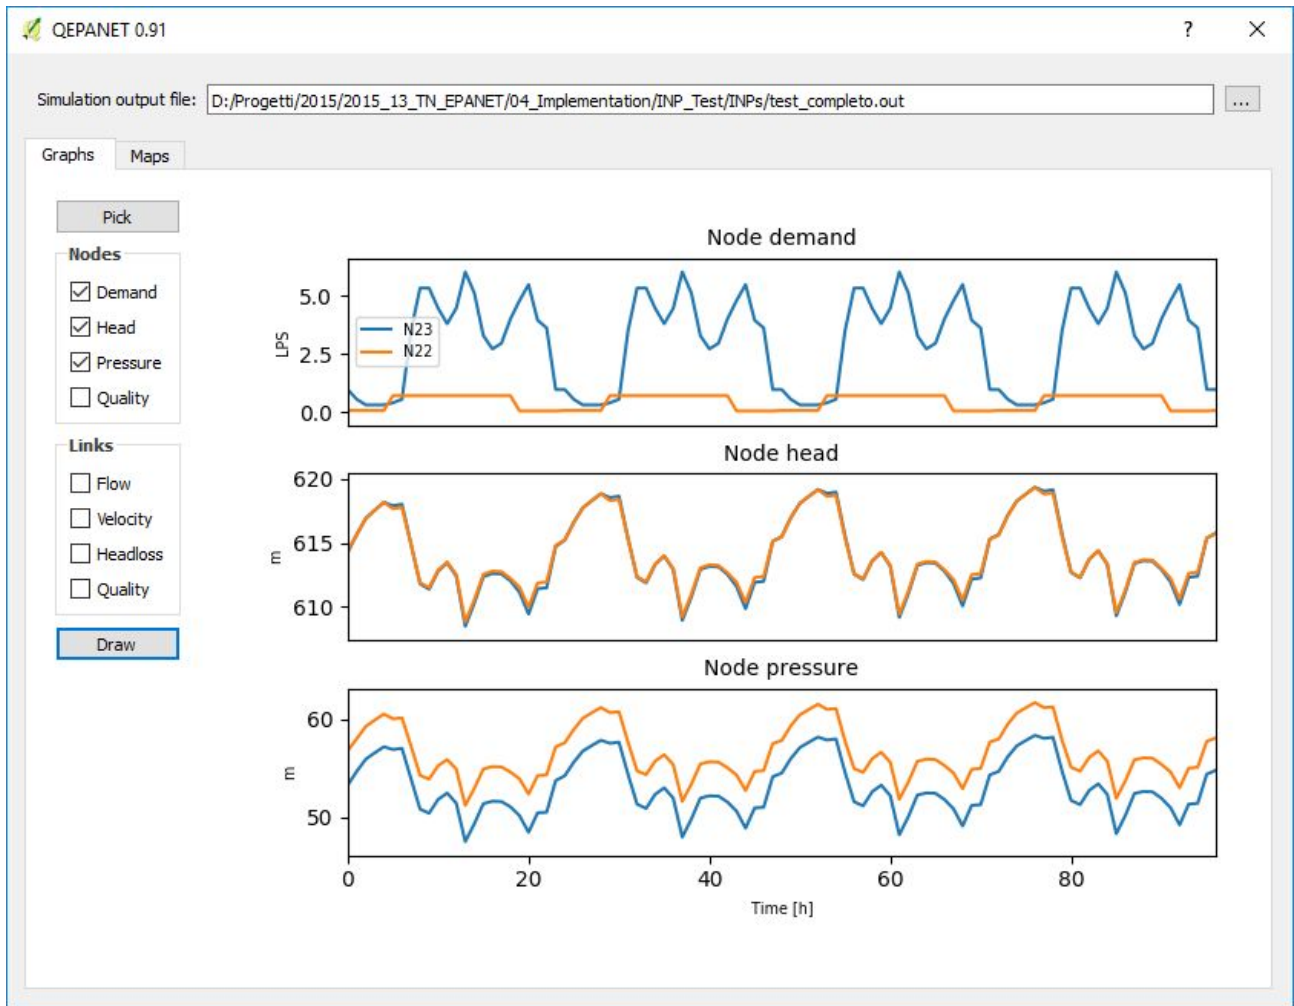

Figure 22. Output analyser - Graphs.
- The “Graphs” section (fig. 22) shows in a graphical from the values of the selected variable(s) along time for the network elements selected by the user (therefore it is possible to compare values of several variables for several elements). The variables include demand, head, pressure and quality for nodes, and flow, velocity, head loss and quality for links.